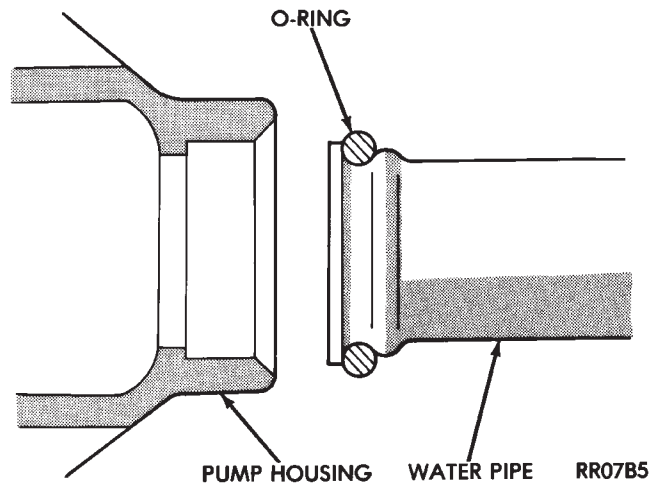

Fig. 26 Water Pipe O-Ring
- (1) Clean all gasket and O-ring surfaces on pump and water pipe inlet tube.
- (2) Install new O-ring on water inlet pipe (Fig. 26). Wet the O-ring with water to facilitate assembly.